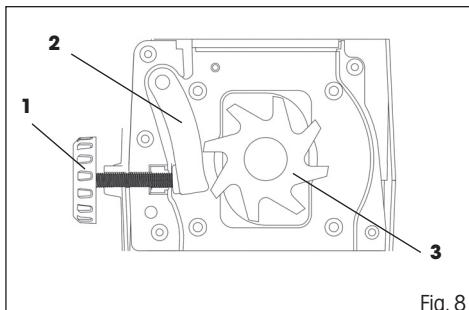

Fig. 8
- For effective operation, it is necessary to set the distance between the counter-blade (Fig. 8, point 2) and the cutting roller (Fig. 8, point 3). The gap between the cutting roller and the counter-blade should be as small as possible.
- To pull the counter-blade towards the cutting roller, slowly turn the setting screw (Fig. 8, point 1) clockwise. Keep turning the screw until fine aluminium fillings start falling out of the ejection chute.